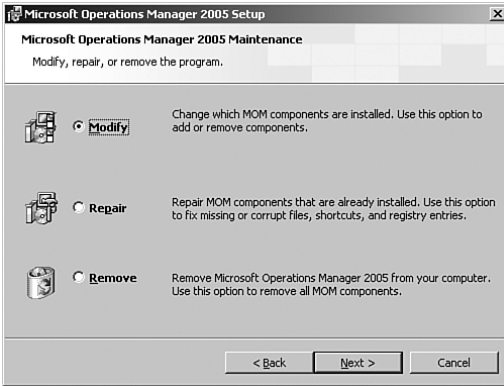

FIGURE 6.16 Select Modify to change which MOM components are installed on the management server.
1. When you run the MOM setup program on the management server, because you have already installed MOM components to this computer, you will be asked whether you want to modify, repair, or remove your installation. In this case, select Modify as shown in Figure 6.16.